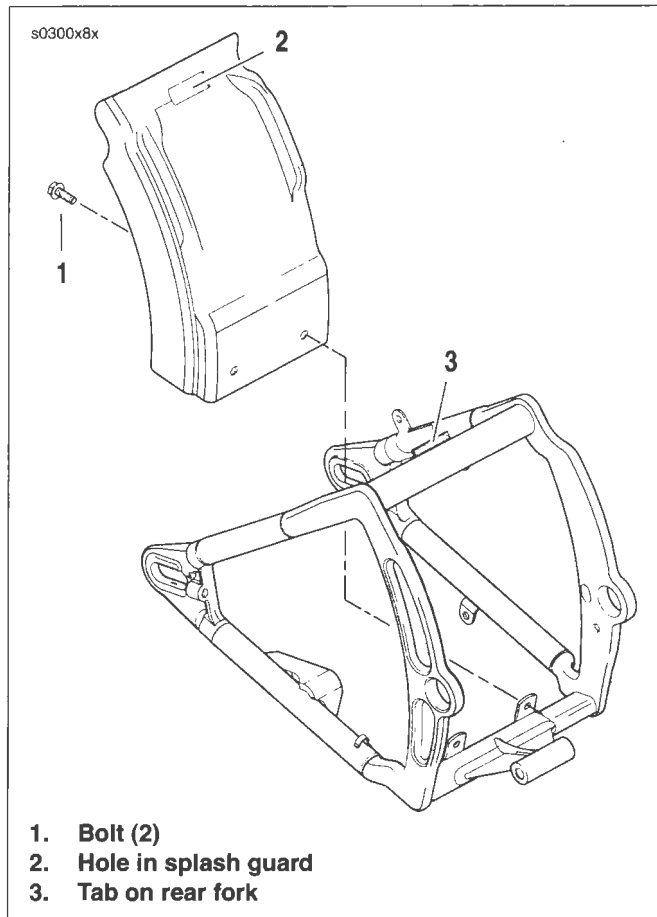

Figure 8-1. Splash Guard
4. See Figure 8-1. Remove two bolts (1) from splash guard. Bend upper right corner of fender towards rear tire and lift upward to clear hole in fender (2) from tab on rear fork (3).
1. See Figure 8-1. Place electrical panel into position by installing tab on panel into slot in bottom of transmission case.
2. Install electrical panel fasteners (1). Tighten fasteners to **60-108 in-lbs (6.8-12.2 Nm)**.
6. See Figure 8-1. Install the rear splash guard using two bolts (1) at the bottom. Hole in fender (2) must fit over a tab on rear fork (3).